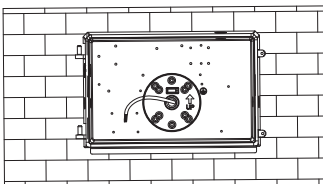

Figure 7
6. Pass the wire through the back hole. (Figure 7)